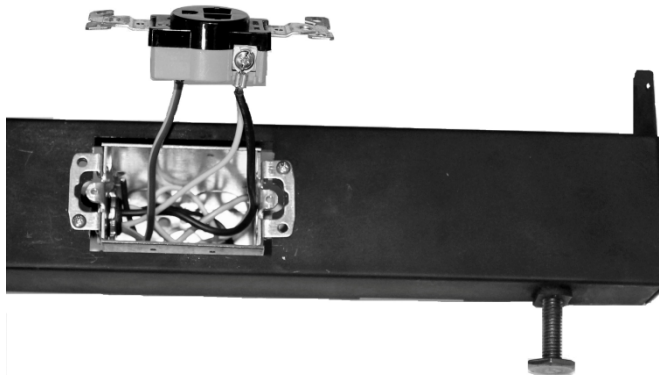

Figure 8 – Wire Power Source to Receptacle
Step 6 — Connect Power Source wiring to “Receptacle” as shown in figure 8. Power source wiring and receptacle must be properly grounded to the “Receptacle” Junction Box using a field supplied ground wire and grounding screw or clip. Refer to wiring diagram in Figure 6 above.